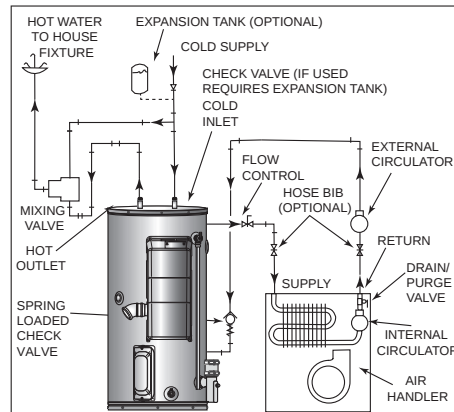
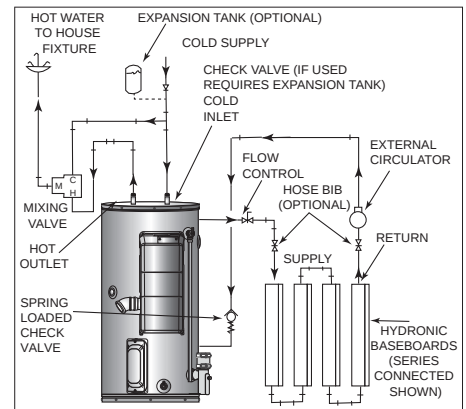

Figure 50. Typical Combo Heating Configuration
Figure 51. Typical Combo Heating with Hydronic Baseboards
9. “Combo” Heating Systems require higher water temperatures than other applications. When the system is used to supply water for Combo Heating applications, a means, such as Thermostatic Mixing Valves at each point-of-use, must be installed to temper the water in order to reduce scald hazard potential. See **Figure 50** and **Figure 51**.
- A. A fan coil/air handler. See **Figure 50** (page 39).
- B. A hydronic baseboard (finned tube) loop/ In floor heating. See **Figure 50** (page 39).